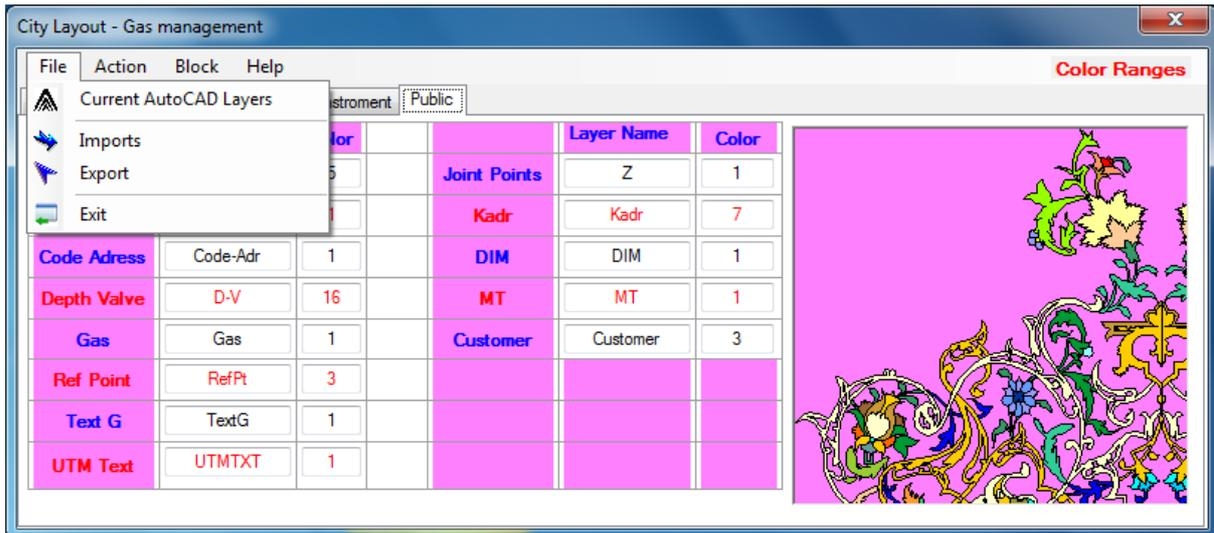

Figure 9
General layers like Z, Base, M, UTM and Gas in “public tab”. With “file” menu you can watch current used AutoCAD layers and by “export” and “import” menu, final created layers can be give and take to other client. (Figure 9)
- Figure 9 : File menu in layers and block management form.